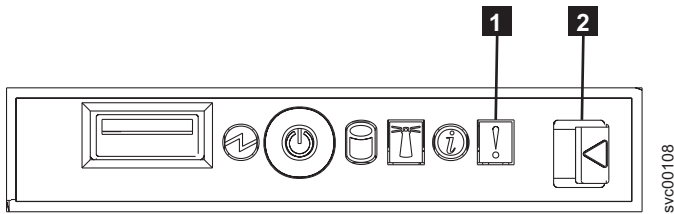

Figure 220. SAN Volume Controller 2145-8F4 operator-information panel
5. Press the operator-information panel release latch ( **2** in Figure 220 on page 224) and slide the operator-information panel away from the SAN Volume Controller 2145-8F2.